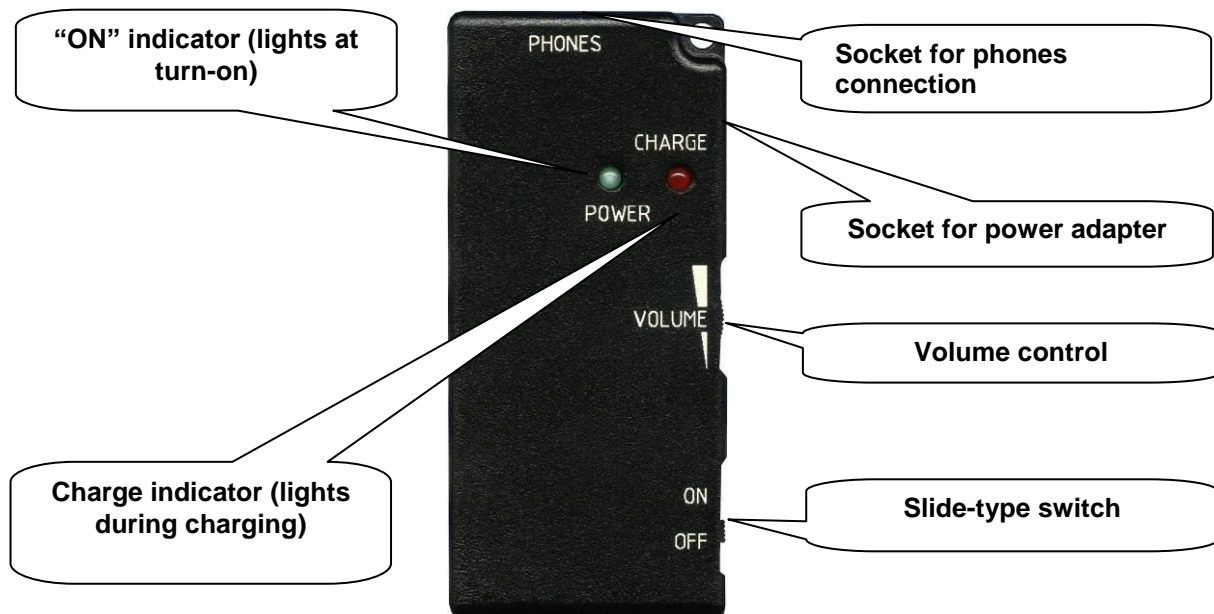

Fig. 7
4.6. Wireless telephones consist of a receiving device and earphones. Appearance of the receiving device and position of control units are shown in Fig.7